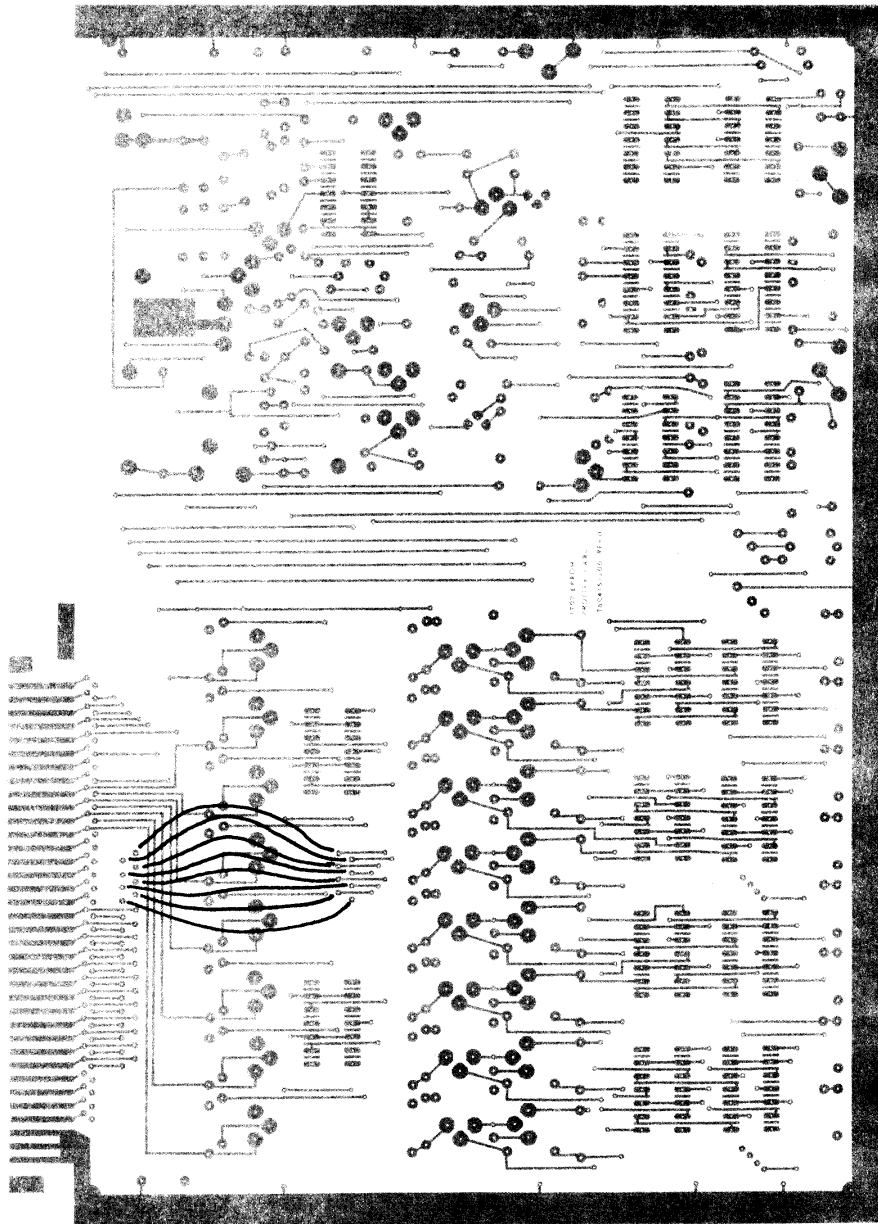

Figure 2. Address Input Wiring
- () Cut eight lengths of wire approximately 2-1/2 inches long. Strip 1/4 inch of insulation from each end. These wires may be installed on either the component or solder side of the circuit board. Figure 2 shows the installation on the solder side. Install the wires one at a time and solder each one with the insulation as near the pad as possible. Cut any excess wire as close to the pad as possible. Be extremely careful that all clippings are removed. Refer to Figure 1 and Table 1 as required to resolve any problems.